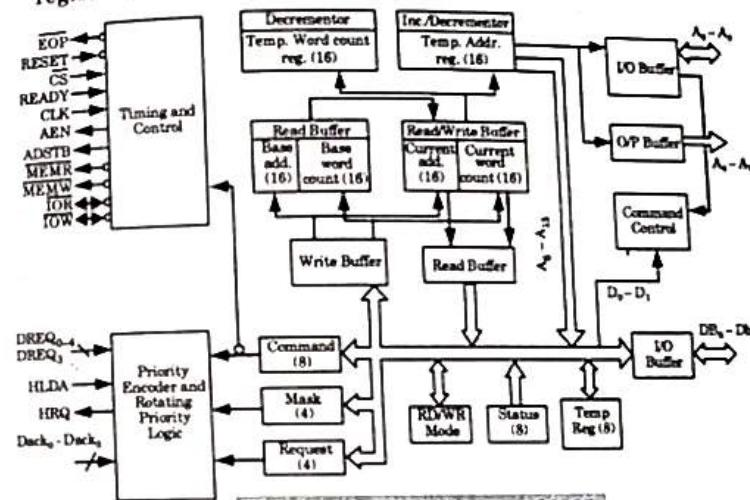

Fig. 3.11.1. Block diagram of 8237.
1. The internal block diagram is shown in Fig. 3.11.1.